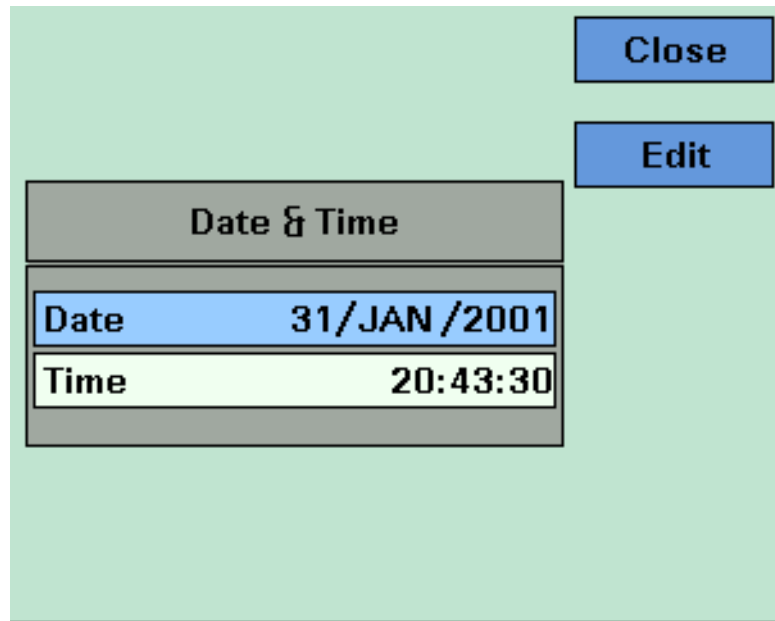

Figure 30 Editing the Date and the Time
- 2 Move to the <Date & Time> menu option and press *Enter*. You see a box, similar to Figure 30 on page 66, displaying the current date and time settings.